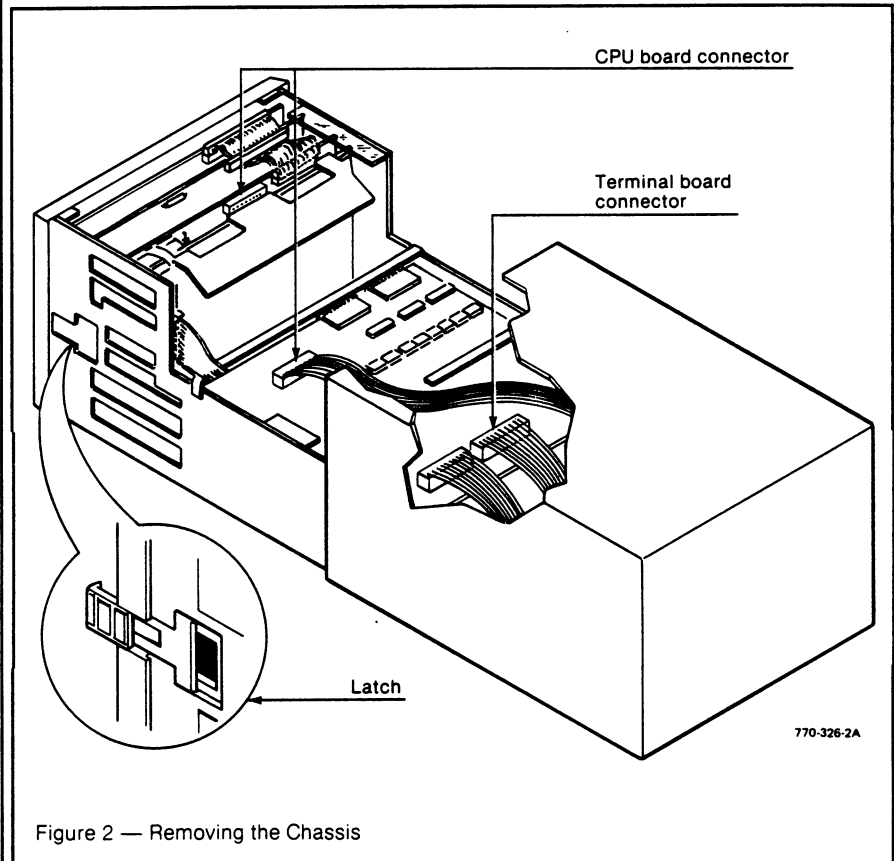

Figure 2 — Removing the Chassis
1. Push the brackets on the side of the bezel forward (Figure 2).